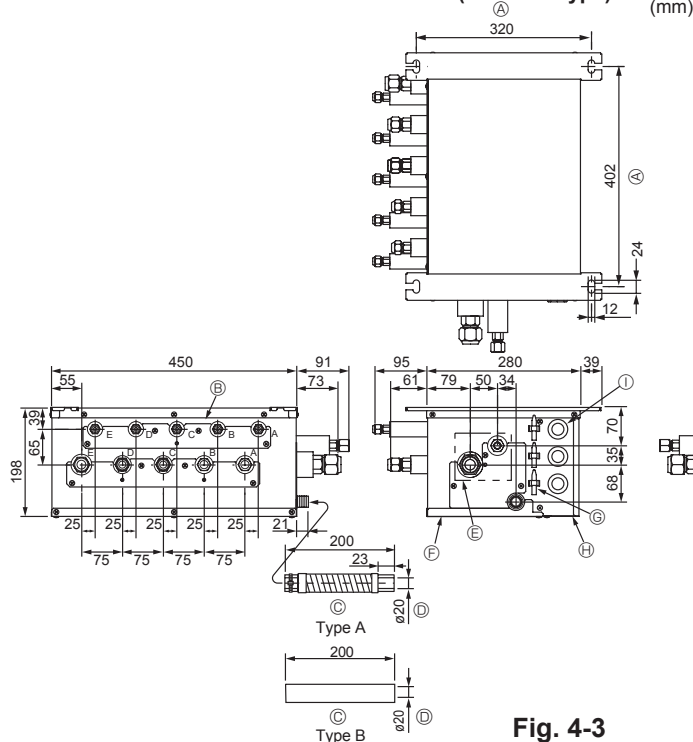

Fig. 4-3
#### ■ PAC-AK51BC/PAC-AK52BC/PAC-AK53BC (Fig.4-3)
- (1) Install the suspension bolts (procure locally) at the specified pitch (Fig. 4-3, 4-4).
- (2) Fit the washers and nuts (①, ②, procure locally) to the suspension bolts.